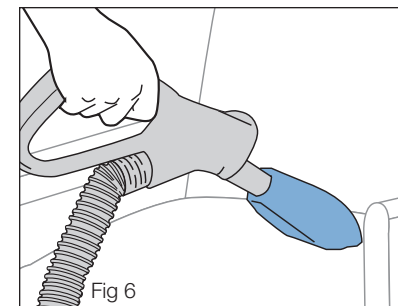

Fig 6
- Step on handle release and begin vacuuming (Fig. 6).
Use for stairs and upholstered furniture (Fig. 6).